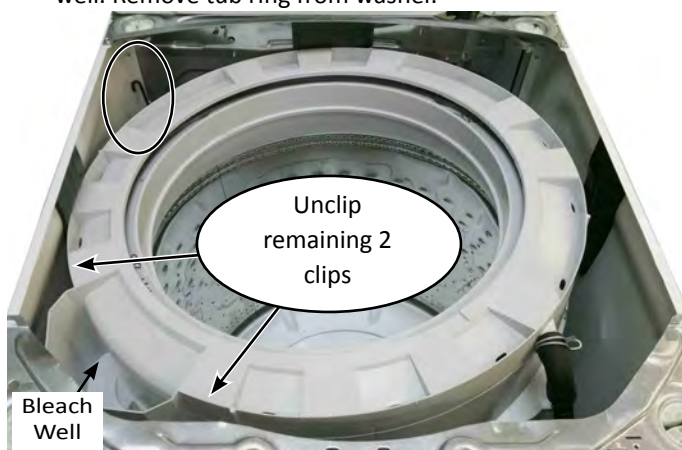

Figure 5
3. Lift-up the left-rear suspension rod and disconnect it from the rear brace (see Figure 5). This will allow more room to access the two clips located on both sides of the bleach well. Remove tub ring from washer.